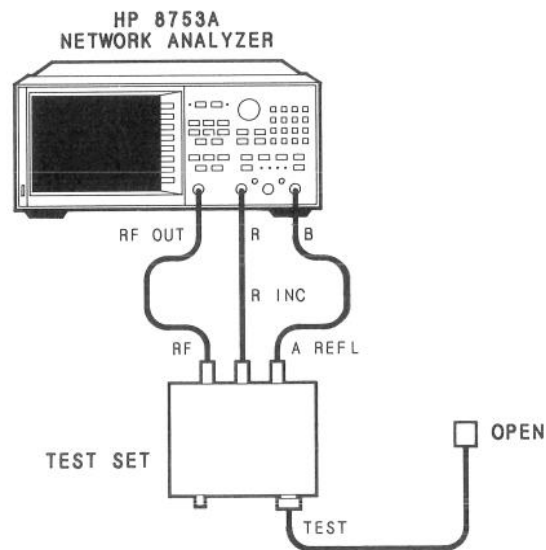

Figure 11. Input A Impedance Test Setup
16. Press **[MEAS]** **[B/R]** to select B/R magnitude. Connect the equipment as shown in Figure 11 and repeat steps 4 through 15 for input A return loss.